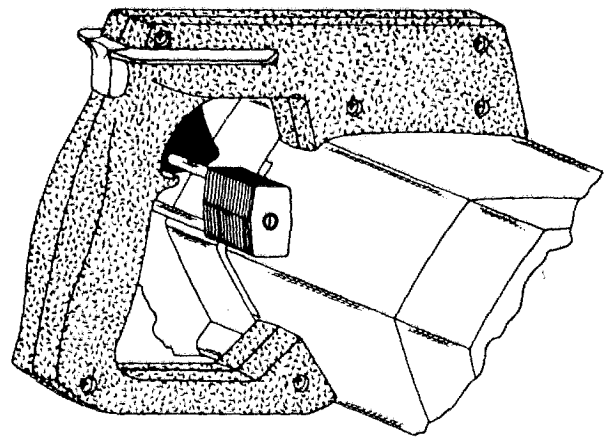

Fig. 32
**IMPORTANT:** We suggest that when the miter saw is not in use it should be disconnected from the power supply. The switch should be locked in the "off" position using a padlock, as shown in Figure 32. A lock with a shackle up to 3/16" diameter may be used.